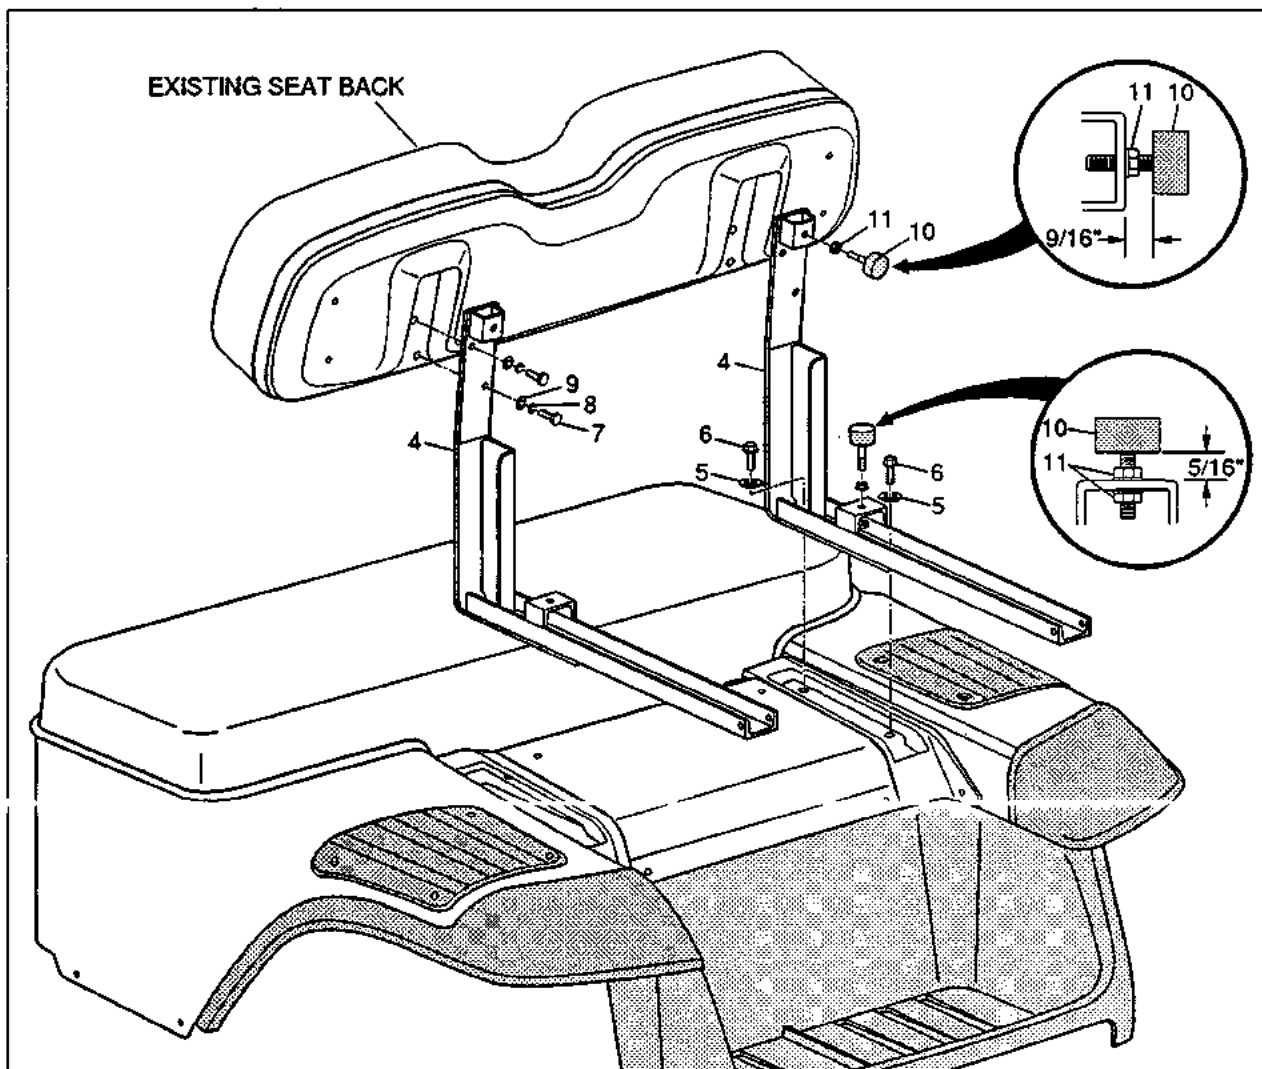

Fig. 3
2. Install the new seat back supports (item 4) to the frame using washers (item 5) and screws (item 6). Finger tighten hardware to allow for adjustment. (See Fig. 3)
3. Using screws (item 7), lock washers (item 8) and flat washers (item 9), secure the existing seat back to the new seat back support. (See Fig. 3)
4. Install rubber bumpers (item 10) on vertical part of seat support bracket using one lock nut (item 11) (per bumper) as shown in Fig. 3. Tighten to dimension specified.
5. Install rubber bumpers (item 10) on horizontal part of seat support bracket using two lock nuts (item 11) (per bumper) as shown in Fig. 3. Tighten to dimension specified.